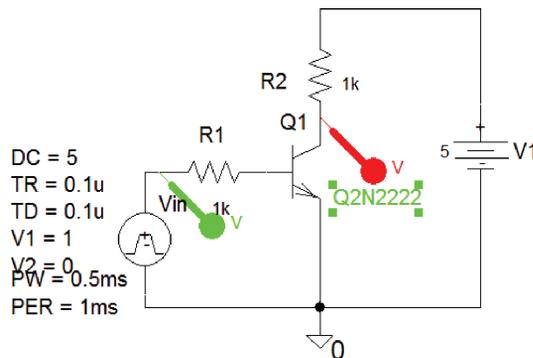

FIGURE 7.42: BJT switch
- (6) Investigate the BJT switching schematic in Fig. 7.42.